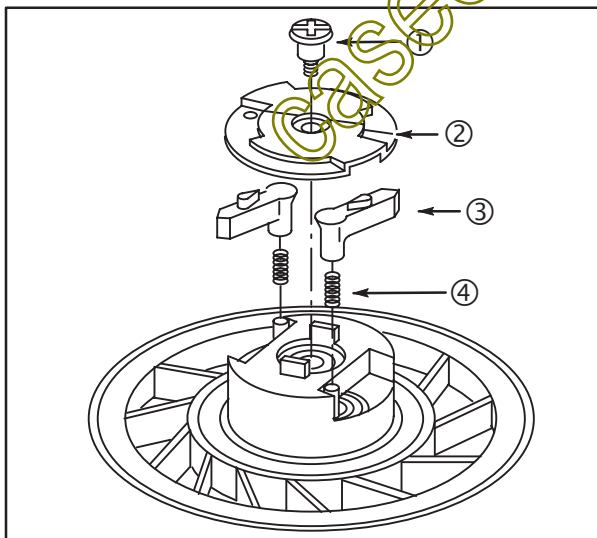

Fig. 56
2. Remove shoulder screw (1) and retainer (2). **Fig. 56.**
3. Lift out dogs (3) and dog springs (4).